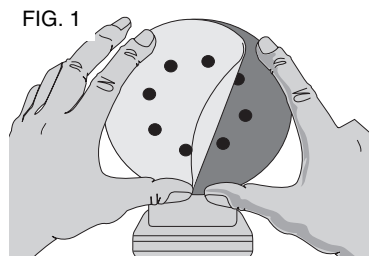

FIG. 3
2. While holding the canister, twist to unlock and remove the adapter. (FIG. 3)